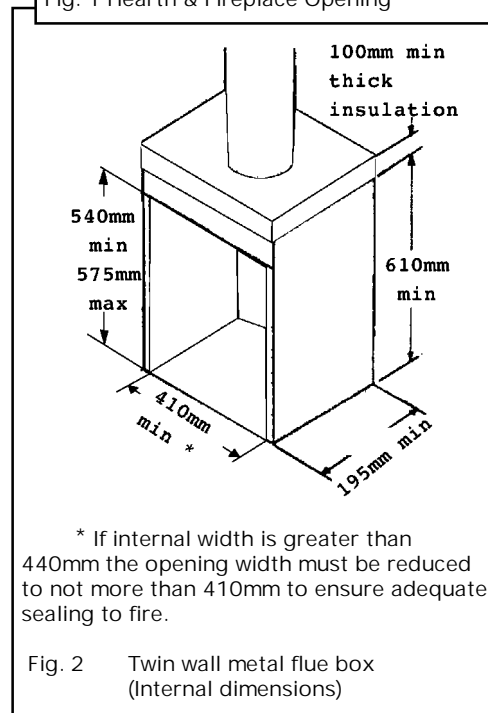

Fig. 2 Twin wall metal flue box (Internal dimensions)
**2.2.2** To a fireplace incorporating a twin walled metal flue box complying with the constructional requirements of the current edition of BS 715 and standing on a non-combustible base. The dimensions of the flue box must conform to the opening shown in figure 2. For flue details see sections 2.3 & 2.4.